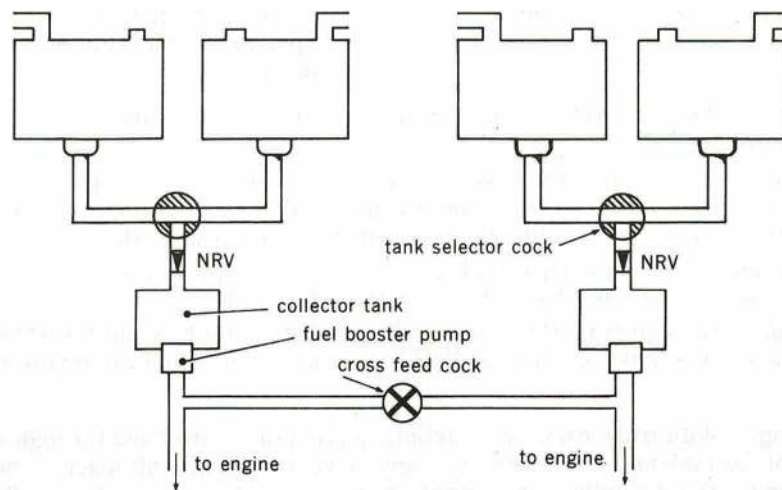

Fig 6.1.3 Use of a collector tank
11. Multi-tank fuel systems can use a low pressure fuel booster pump for each tank, or the tanks can feed into a collector tank and a booster pump can be used to pump the fuel from the collector tank to the engine(s) (Fig 6.1.3). Any number of fuel tanks can be used so that all